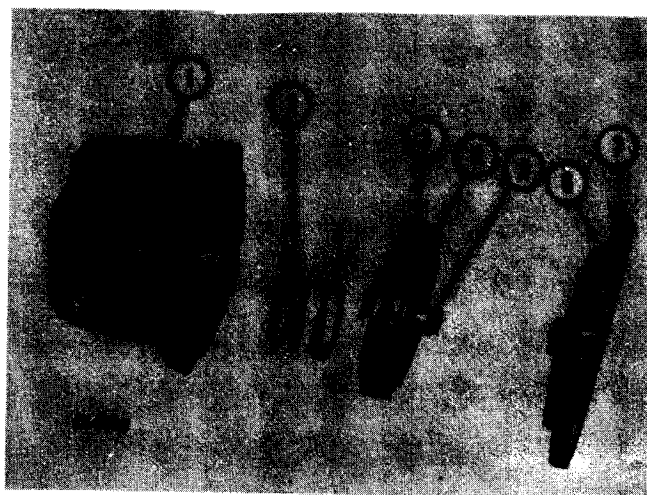

Figure 13-24
Punch mark valve body (1, Fig. 13-24) and cover (7). Remove cover (7) from lower valve body (1). Discard seal (6) from groove in cover. Remove secondary piston (4) from body. Discard small "O" ring (5) and large "O" ring (3) from grooves in piston. Remove spring (2) from body.
Install a new large "O" ring (3, Fig. 13-24) and a new small "O" ring (5) on secondary piston (4). Install new seal (6) on cover (7). Insert spring (2), piston and cover into lower body (1). Match previously made punch marks.